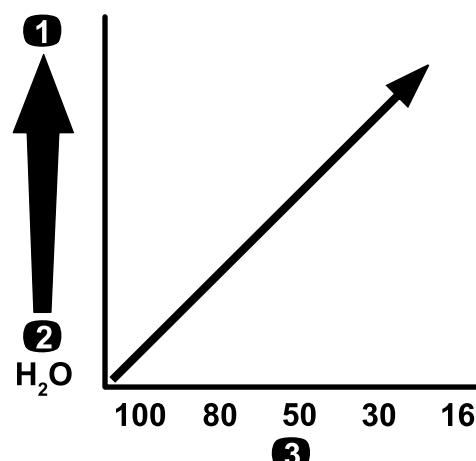

Figure 20
**Important:** When you spray with higher viscosity (thicker) chemical products or solutions with wettable powders, you may need to use a coarser screen mesh for the optional pressure-filter; refer to Figure 20.